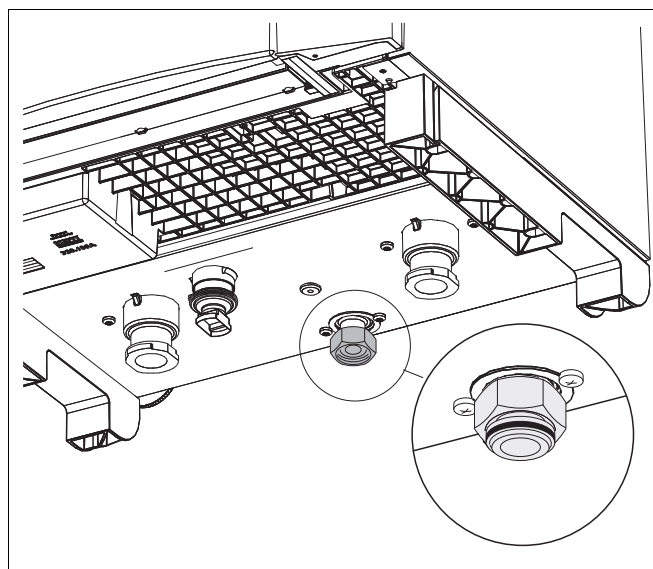

fig. 3 Rubber seal
- Make sure that the factory-fitted flat rubber seal is located in the threaded connection (boiler side) (fig. 3, **see detailed picture**).